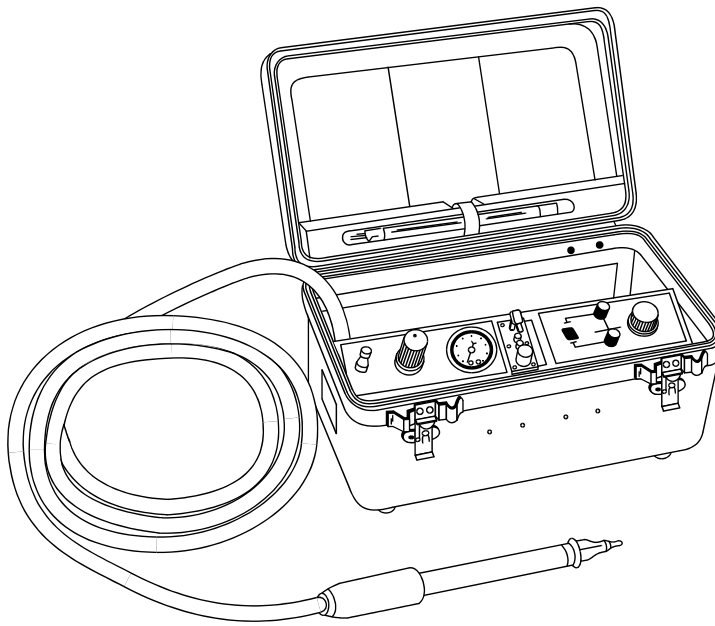

Figure 3-20
46. The compressed air/nitrogen heating tool (illustrated in Figure 3-20) is a portable source of heat for use with heat-shrinkable tubing and solder sleeves. As the unit is fully enclosed, it is approved for use on fuelled aircraft. To operate, the heating tool must be connected to an external source of compressed air/nitrogen and power.